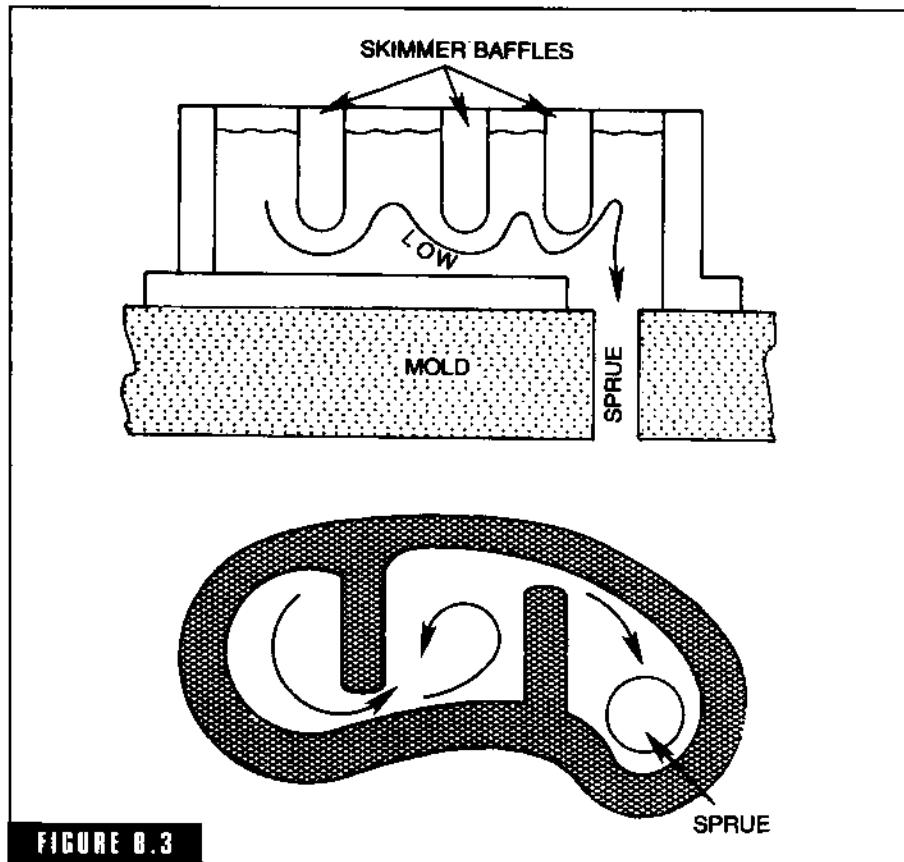

FIGURE B.3
**baffle plate pouring basin** Baffle plates are sometimes used in a special type of skimmer type pouring basin (Fig. B-3). This type of runner basin is made up of a cast iron runner box divided into four compartments. The theory is that each compartment allows the slag, dirt, and scum to float to the top of the metal and gives the metal four chances to rid itself of foreign inclusions. When it reaches the sprue, you have only clean metal. The author has constructed various versions of this basin based on a skimmer with a continuous tapped cupola spout. I have had great success,